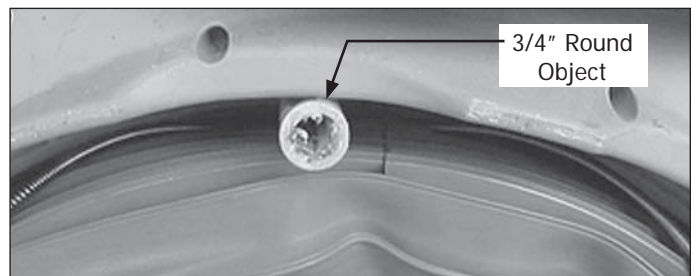

Figure 4-45.
7. Place the spring in the groove at the top of the bellows and wedge a round object, about 3/4 " in diameter, between the weight ring and the bellows to hold the spring in the groove. (See Figure 4-45)